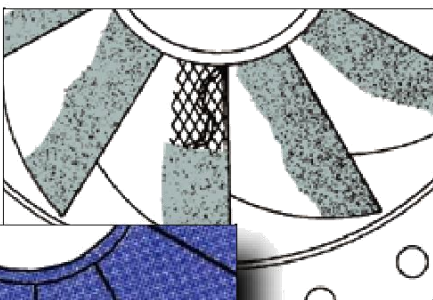

Figure 7
7. Now, fill the missing metal areas with **Ceramic Repair putty #11700**, applying small amounts at a time, to "wet in" the epoxy and prevent air pockets, being sure to push epoxy through until it oozes out the other side. Smooth over final coating as described in step 3 to improve the pumps flow. Plastic forms can be used to support the epoxy while curing (Figure 7).